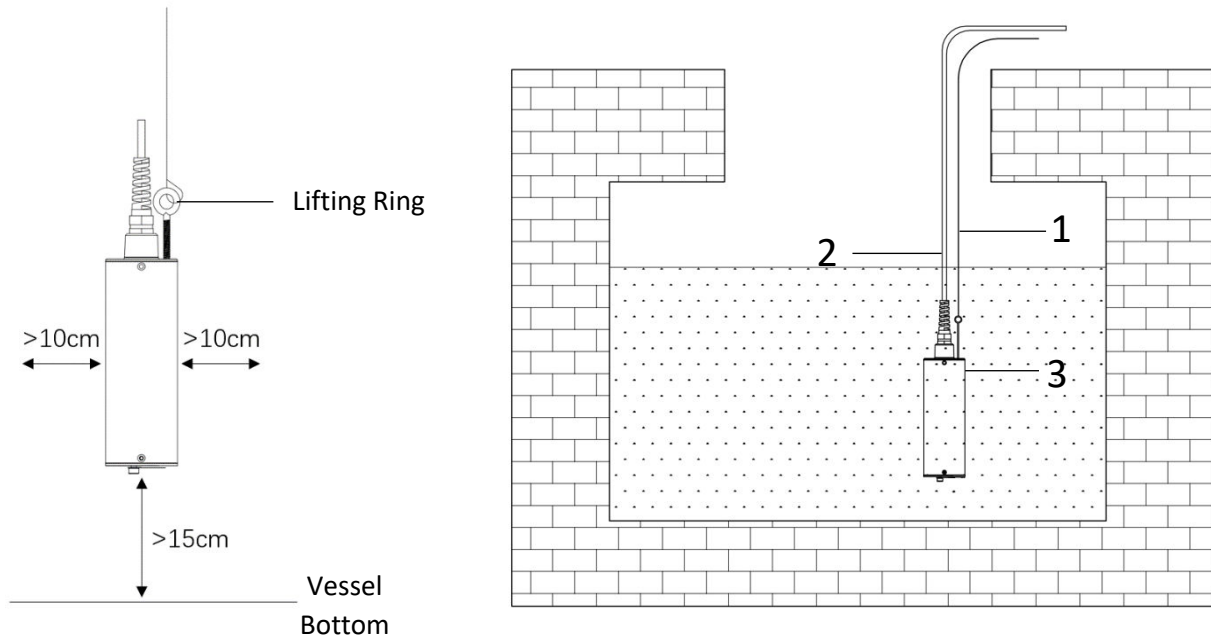

Figure 4 - Submersed Installation Using the Lifting Ring
(2) The LT-63X series sensor should be calibrated with a minimum distance of >15cm from the bottom of water container to the lens of the sensor and a minimum of >10cm from the vessel wall on all sides(as shown in Figure4).
2. Insert the sensor into a oversized beaker or bucket (as shown in Figure 4). Add bubble-free deionized water or water with <1.0NTU of turbidity container and wait for the sensor reading to stabilize.
2. Remove and insert the LT-63X series sensor into a clean and dry oversized beaker or bucket (as shown in Figure 4) and add the midpoint calibration solution (Please refer to the table in the previous section for the midpoint turbidity calibration range).